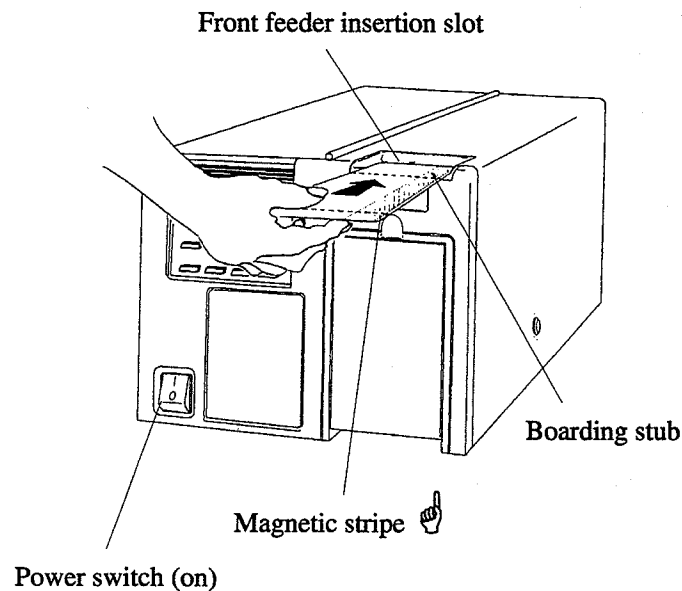

FIGURE 4-4. FRONT FEEDER INSERTION
4. Insert the coupon into the front feeder with the boarding stub first, the staple tab last and the magnetic stripe up as shown in figure 4-4.